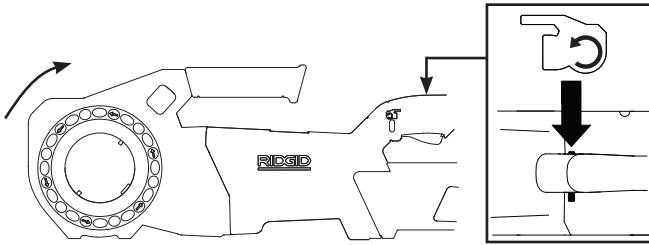

Figure 5A – FORWARD (Clockwise) Switch Position
- Move the Forward/Reverse slide switch to the Forward position. Depress and release the ON/OFF switch. Confirm that the power drive rotates in correct direction (see *Figure 5A*) and stops when releasing the switch.